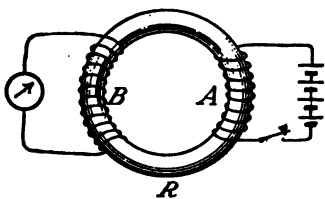

FIG. 319. — Faraday's ring transformer.
**358. Induced currents in a transformer.** As long ago as 1831 Faraday wound two coils of wire on a soft iron ring, as shown in figure 319. When coil *A* was connected with a battery